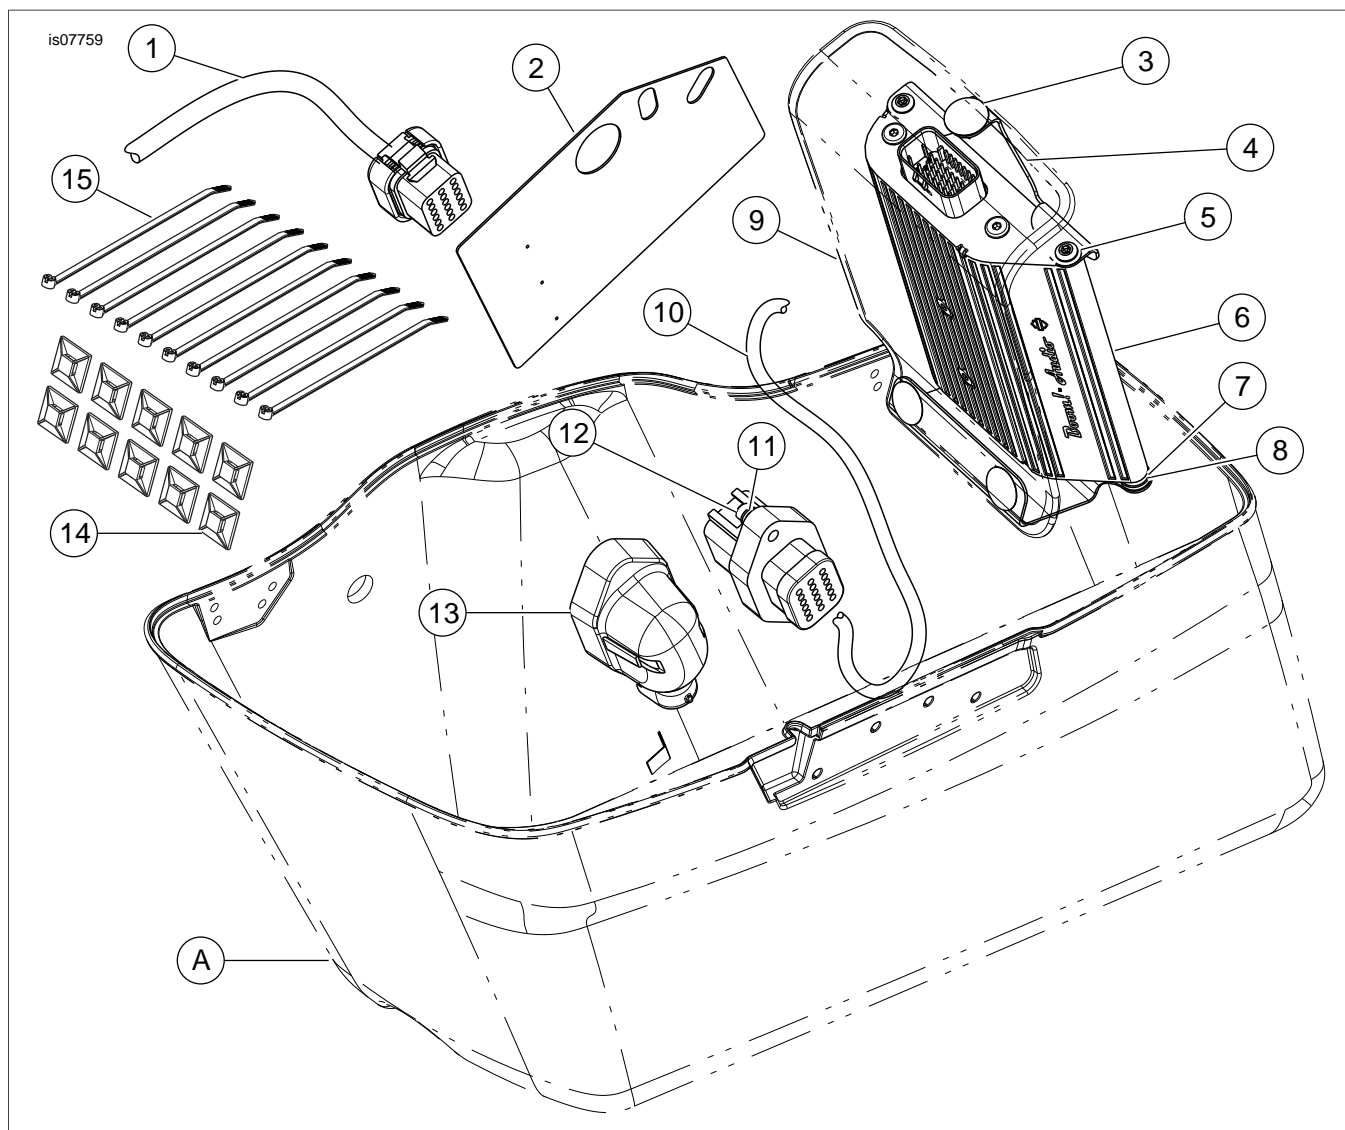

Figure 14. Service Parts, Boom! Audio Amplifier Expansion Kit
3. See Figure 3. Install pin side connector of jumper harness (item 10, Figure 14) from inside the saddlebag. Secure connector with two screws and washers.